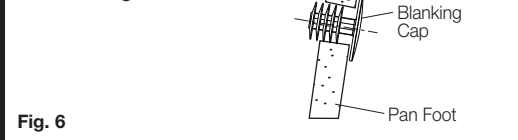

Fig. 6
- 3- Locate blanking cap into pan fixing holes as detailed in Fig. 6.